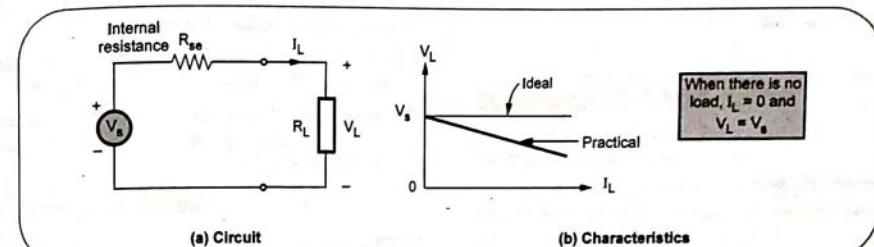

Fig. 1.6.2 Practical voltage source
- But practically, every voltage source has small internal resistance shown in series with voltage source and is represented by  $R_{se}$  as shown in the Fig. 1.6.2.